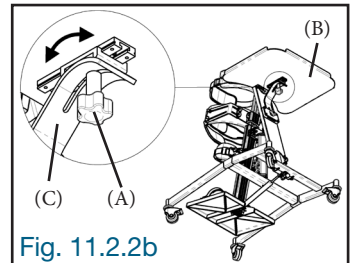

Fig. 11.2.2b
Slightly loosen the locking knob (A) under the table and tilt the table (B) up or down on the table support (C). At the desired tilt angle, tighten the locking knob (A) firmly to secure the table in place (Fig. 11.2.2b).